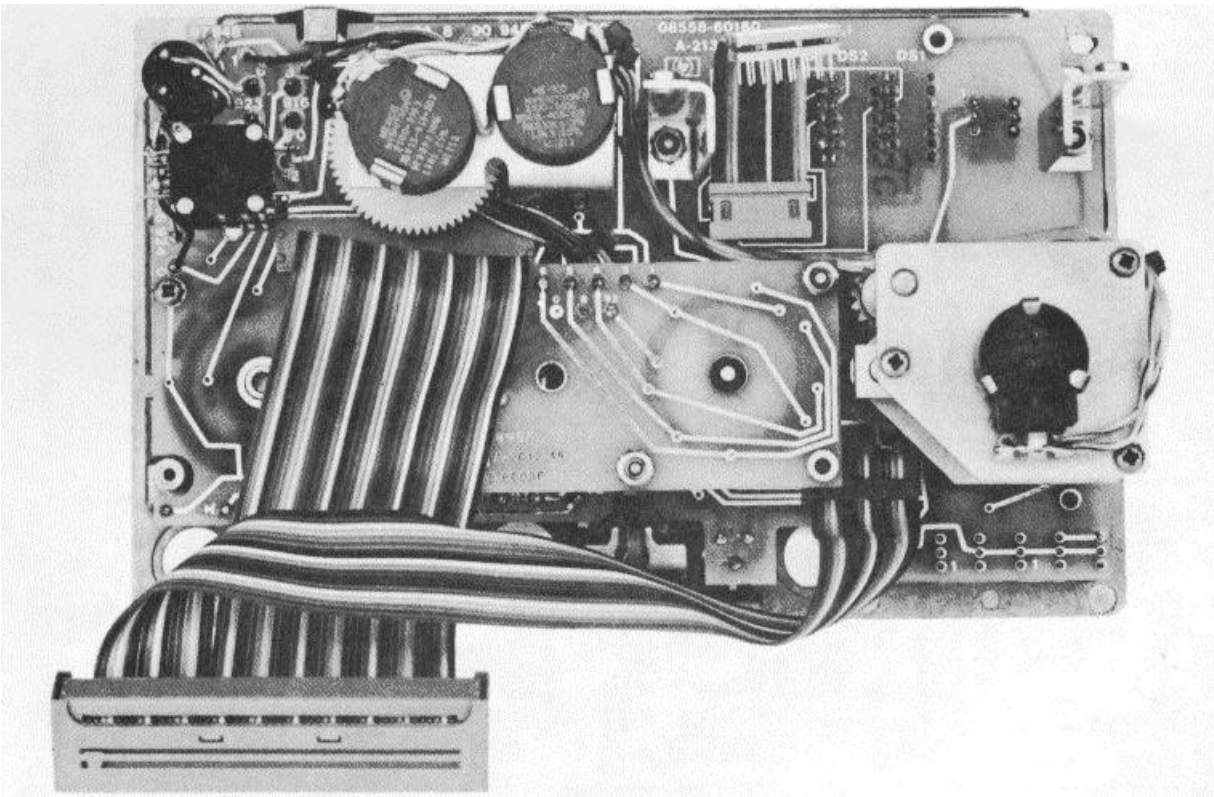

Figure 8-53. Rear View of Front Switch Assembly A2
- f. Place Rotating Lockout (70) on Ref Level Shaft (6) with teeth flat against Ref Level Detent (68). Lockout teeth should be aligned to miss pin on Ref Level Detent when Ref Level Shaft is pushed in (switch in any detent position). With Ref Level Shaft fully extended from front panel, use a no. 4 hex wrench to tighten Rotating Lockout.
- g. Push Ref Level Shaft (6) in and out and check for smooth mechanical feel and proper Rotating Lockout (70) alignment. Rotating Lockout should not bind against Ref Level Detent (68) and should allow Ref Level Shaft to turn smoothly between detent positions. Adjust Rotating Lockout as necessary for proper operation.
- h. Use a no. 4 hex wrench to lightly tighten one set screw in front Anticrush Drive Hub (7) visible between Attenuator Drive Rotor (8) and Front Switch Diecast (1).
- i. Turn Attenuator Drive Rotor (8) so that long pin (for Input Attenuator pointer) is at bottom of Front Switch Diecast (1). Hold Attenuator Drive Rotor in position and push in on Ref Level Shaft (6) to align front Anticrush Drive Hub (7).
- j. Push Ref Level Shaft (6) in and out while observing Ref Level Rotor (67) and Attenuator Drive Rotor (8). Rotors will not move when front Anticrush Drive Hub (7) is properly adjusted.
- k. Use a no. 4 hex wrench to firmly tighten both set screws in front Anticrush Drive Hub (7). Recheck Ref Level Shaft (6) as in step j, and readjust front Anticrush Drive Hub as necessary.
- l. Slip Miter Gear (57) over Attenuator Shaft Assembly (17). Do not tighten at this time.
- m. Inspect Ref Level Fine Assembly (35, 36, 72-76). Ref Level Fine Shaft (72) should turn smoothly. Check Ref Level Fine Potentiometer (76) and connecting wires for good electrical connections. Lightly grease Ref Level Fine Shaft and hollow Index Disc Locator (71) shaft.
- n. Install Index Disc Locator (71) on Front Switch Assembly. Hole in locator bar rides over left-most Standoff (69) used to support Ref Level Fine Pot Plate (75). Install Ref Level Fine Assembly (35, 36, 72-76) on Front Switch Assembly with three Screws (54). Connecting wires should be routed as shown in Figure 8-53. Ref Level Fine Shaft (72) should turn smoothly without binding over its full rotation. Adjust position of Ref Level Fine Pot Plate as necessary.
- o. Use a new tiewrap to attach Ref Level Fine connecting wires to Standoff (69) as shown in Figure 8-53.
- a. Mount RF Input Attenuator to Attenuator Bracket (55) using two Screws (53). Check all eight attenuator positions by hand for proper detent action and smooth operation. Leave attenuator in full counter-clockwise position.
- b. Slide Miter Gear (57) to end of Attenuator Shaft Assembly (17) against Ref Level Fine Pot Plate (75). Set Attenuator Assembly in place on Front Switch Assembly, with notch in Attenuator Bracket (55) lightly greased and aligned with Attenuator Shaft Assembly. Use Washer (56) and Screw (19) to fasten Attenuator Bracket to lower left corner of Front Switch Diecast (1). (Do not tighten Miter Gear at this time.)